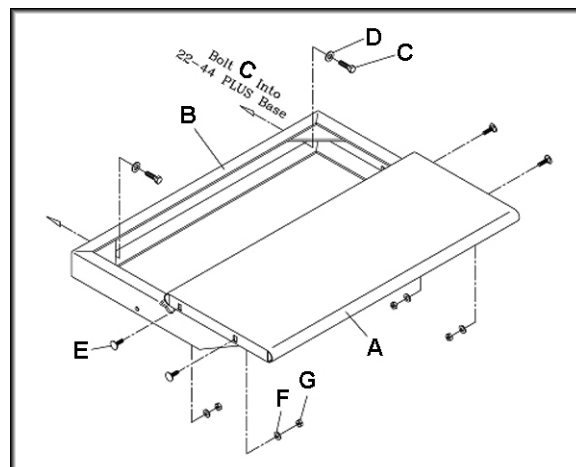

Figure 6
Attach the handwheel (A, Figure 6) to the height adjustment screw, and tighten the two set screws with the 4mm hex wrench supplied.
1. Bolt the base bracket (B, Figure 6) to the sander base with two 3/8"-16 x 1" hex head cap screws (C) and two 3/8" flat washers (D). Tighten the screws.
2. Mount the table (A) to the base bracket (B) with four 1/4"-20 x 3/4" carriage bolts (E), four 1/4" flat washers (F) and four 1/4" hex nuts (G). **Note:** Leave the carriage bolts loose for now.
3. Place a straight edge on the conveyor bed and extending out over the extension table. Raise or lower the extension table until it is level with, or slightly below, the surface of the conveyor belt. Tighten the hex nuts (G).